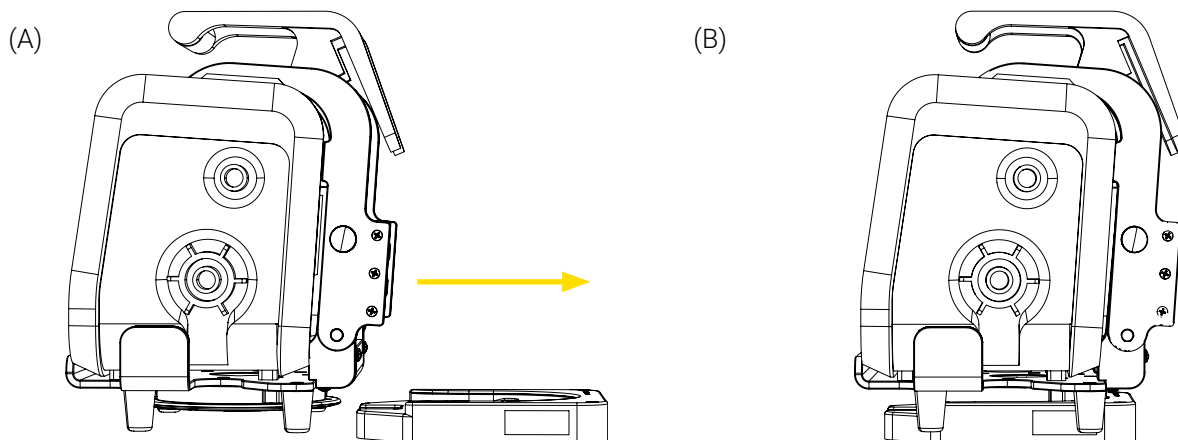

Figure 8: Installing the medical device on the Standard Surface Base
1. Align and insert the standard bottom disc located under the Bracket Pro Serie 60 - SD horizontally in the Standard Surface Base until it is locked (Figure 8).
NOTE: Ensure to insert the medical device backwards onto the base (Figure 8). The Technimount logo on the bracket should be aligned and centered with the quick release button on the Standard Surface Base once installed.